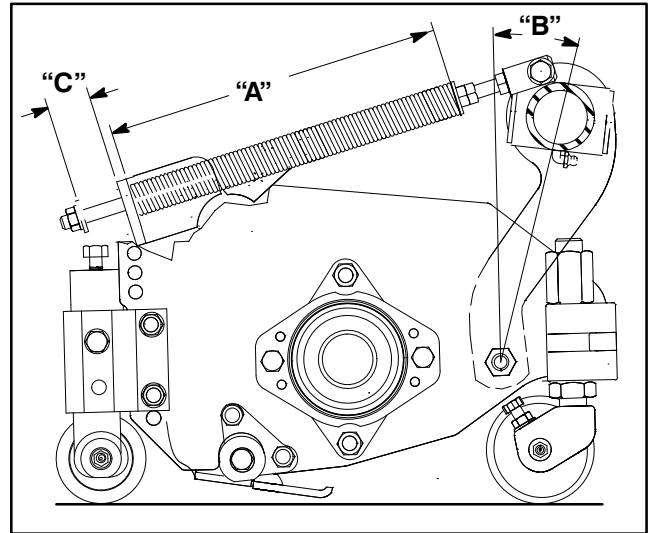

Figure 6
The Turf Compensation Spring (Fig. 6), connecting carrier frame to cutting unit, controls the amount of fore-aft rotation available, as well as the amount of ground clearance in transport and turn around.
1. Tighten lock nut on rear of spring rod until the gap (C) between rear of spring bracket and front of washer is 1-1/2" (38 mm) (Fig. 6).
2. Tighten hex nuts on front end of spring rod until the compressed length (A) of spring is 8" (203 mm) (Fig. 6).
- NOTE:** When cutting rough or undulating turf, increase compressed length (A) of spring to 8-1/2" (216 mm)
and gap (C) between rear of spring bracket and front of washer to 2" (51 mm) To attain this adjustment, spring rod must be unthreaded from rod end approximately 1/2" (Fig. 6).